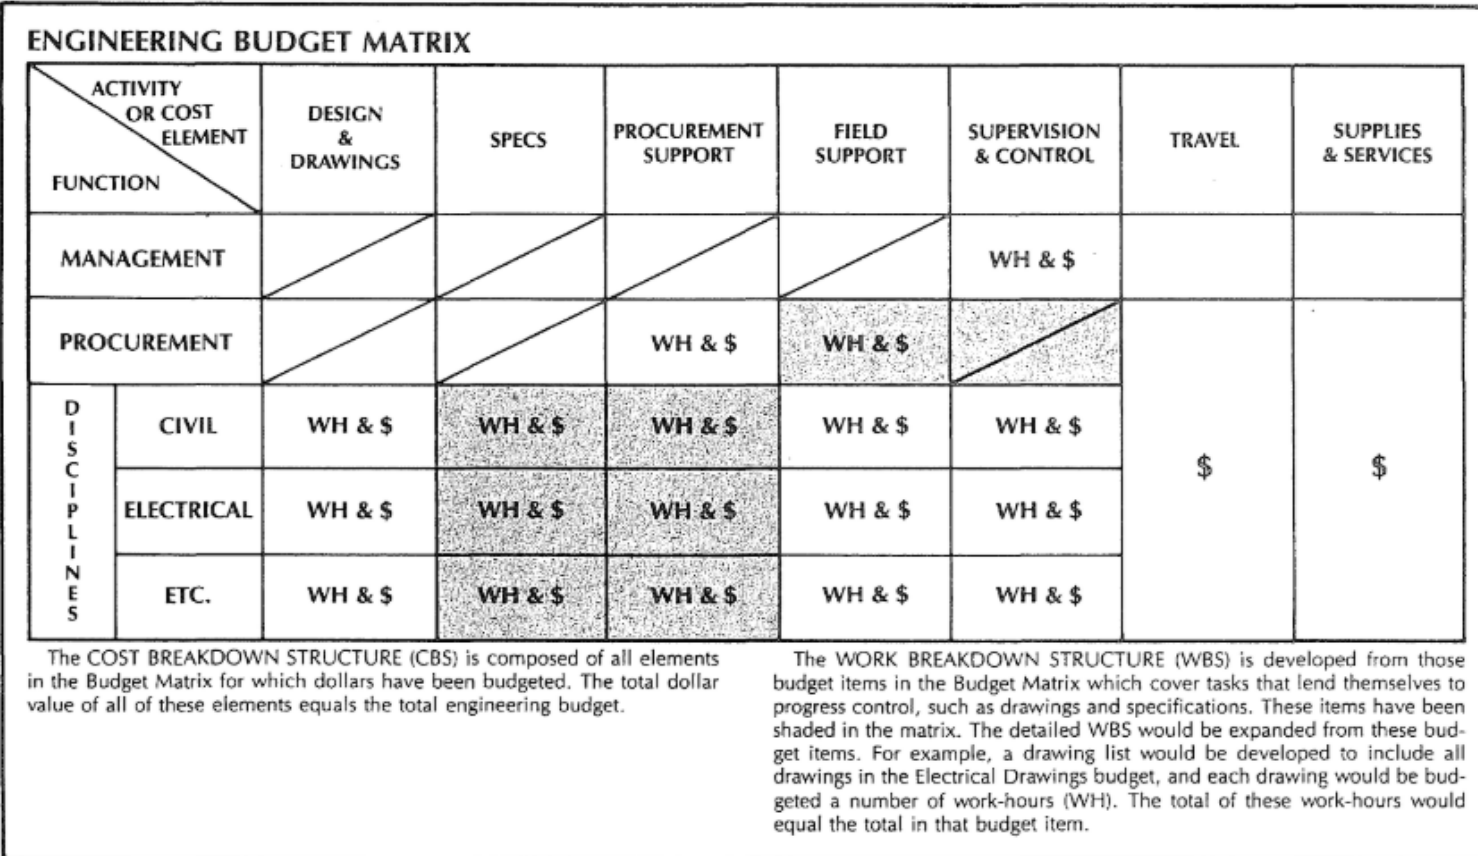

Figure 2. Engineering CBS and WBS
- ❑ Figure 2 illustrates the CBS/WBS relationship as seen by a **design-engineer**
Figure 2 illustrates the CBS/WBS relationship as seen by a **design-engineer**